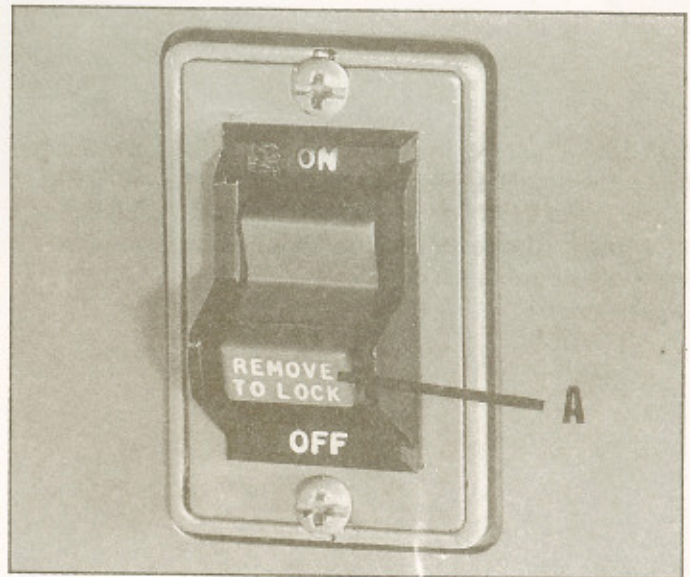

Fig. 15
The switch (A) Fig. 15, is located on the front side of the band saw. To turn the saw ON, move the switch to the "up" position. To turn the saw OFF, move the switch to the "down" position.